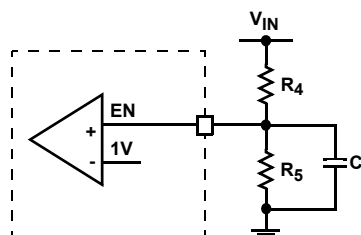

FIGURE 37. EXTERNAL RESISTOR DIVIDER
When the input voltage is below the undervoltage lockout (UVLO) threshold, the regulator is disabled. To adjust the voltage level of power on and UVLO, use a resistive divider across EN. The input voltage programming resistor R_4 will depend on the bottom resistor R_5 , as referred to in Figure 37. The value of R_5 is typically between 10kΩ and 100kΩ.
The enable (EN) input allows the user to control the turning on or off the regulator for purposes such as power-up sequencing. When the regulator is enabled, there is typically a 600μs delay for waking up the bandgap reference and then the soft-start-up begins. It is recommended that the EN voltage should be kept logic low (less than 400mV), until V_{IN} reaches 2.5V. Refer to Figures 37 and 38 for suggested circuit implementation with V_{IN} slew rate.